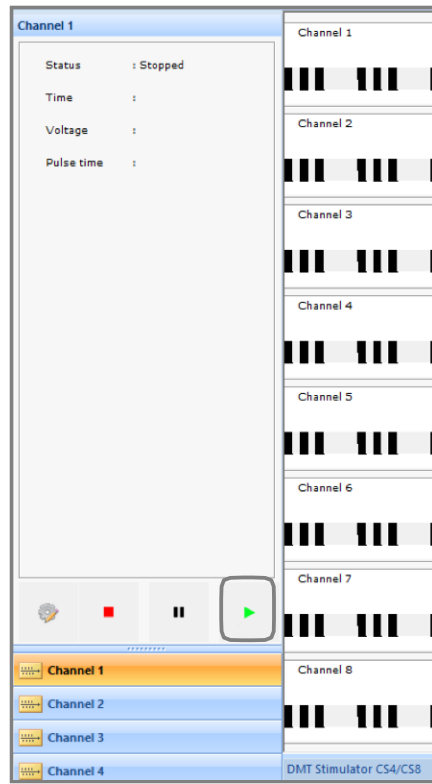

Figure 3.4.9
- Start Channel manually: Use ‘Start all channels’ in the Control sub menu in the Home menu (figure 3.4.9).
Alternatively, a specific channel can be started by clicking on the channel to highlight it. Then click the ‘Play Button’ in the Channel status window shown in figure 3.4.9.